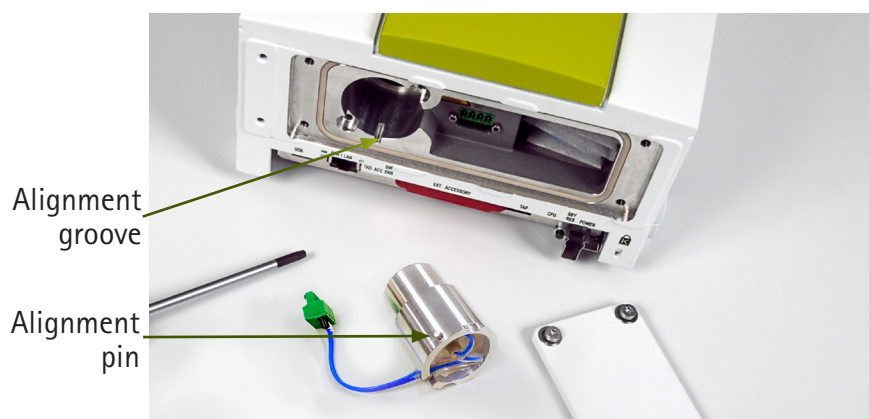

Figure 21. IR source removed from instrument
7. Insert the new IR source into the spectrometer housing. Make sure that the alignment pin fits into the alignment groove (Figure 21).